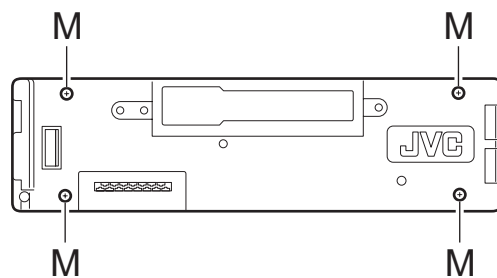

Fig.11
- (1) Remove the four screws **L** attaching the mecha bracket.
2.1.11 Removing the switch (LCD & key) board (See Fig.11~13)